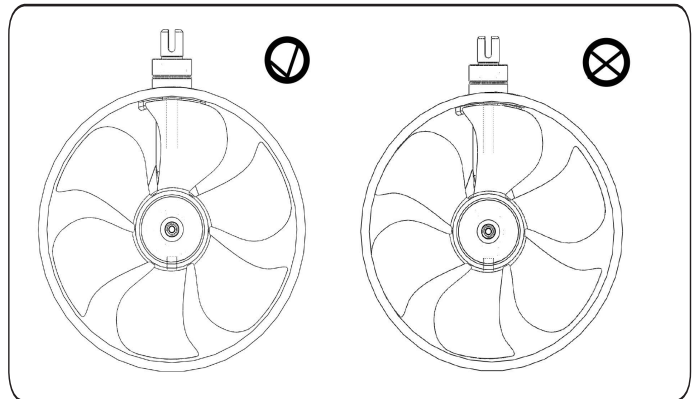

Figure 6
- Make sure the propeller is centred in the tunnel and that propeller can rotate freely (Figure 6).